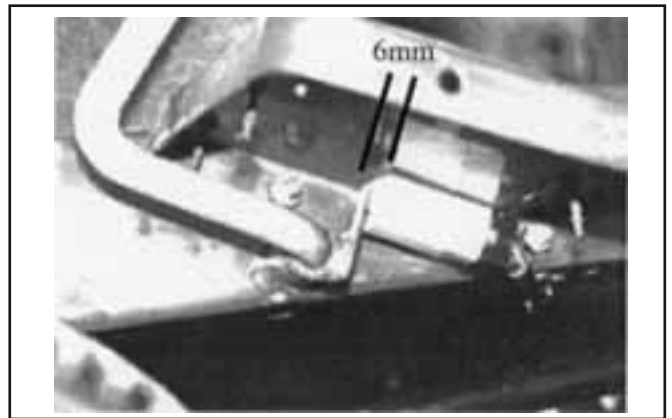

Fig. 29 Clutch brake safe switch
2. Loosen the two safety switch retaining screws and slide the safety switch towards the rear of the mower. *Fig. 29*